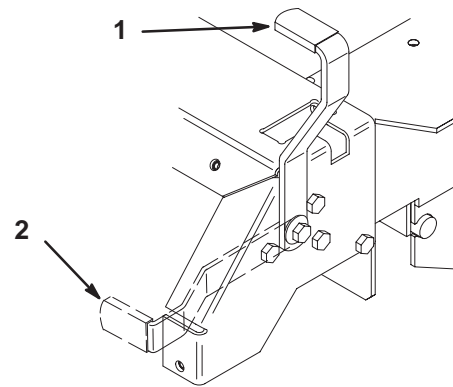

Figure 12
2. Pull back and up on the parking brake lever to set the parking brake (Fig. 12). The parking brake lever should stay firmly in the Engaged position.
Push forward and down on the parking brake lever to release the parking brake (Fig. 12). The parking brake is disengaged.